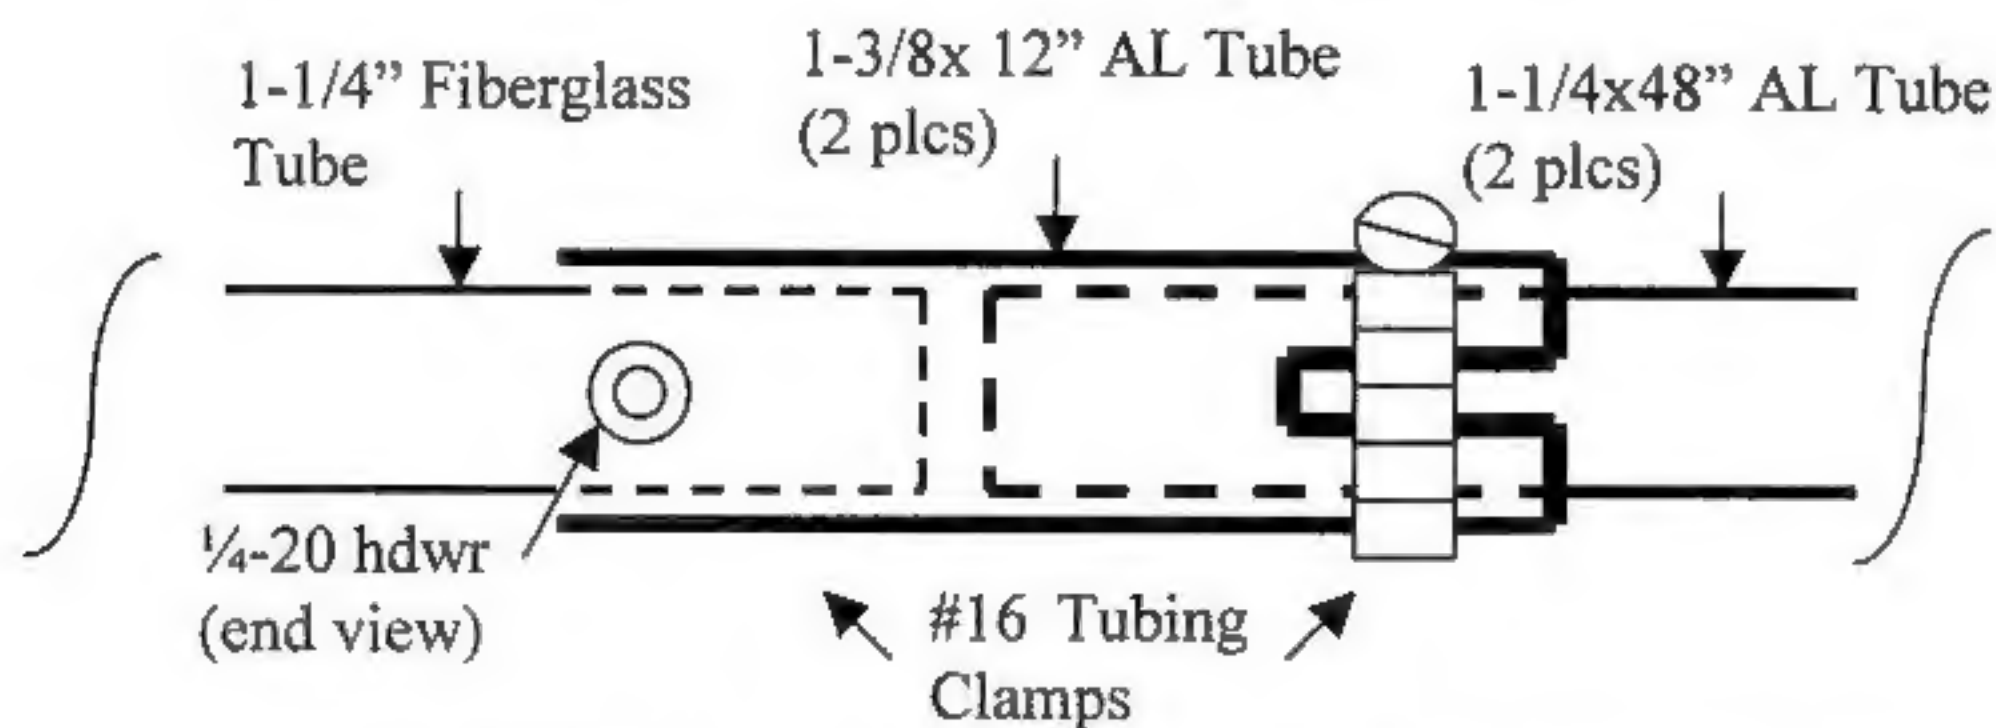

Figure 3: 48 inch Radiator Tube to Center Insulator Assembly
- 5) Slide the two 1-1/4 x 48 inch aluminum radiator tubes into each of the 1-3/8 x 12 inch aluminum tubes mounted to the 1-1/4 x 12 inch fiberglass rod. The 48 inch aluminum tubes should slide up against the fiberglass rod. Clamp the 1-1/4 x 48 inch aluminum tubes to the 1-3/8 x 12 inch aluminum tubes using #16 tubing clamps as shown in Figure 3.